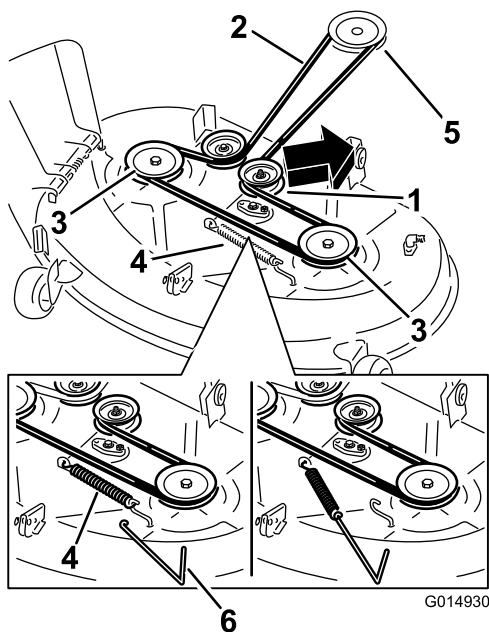
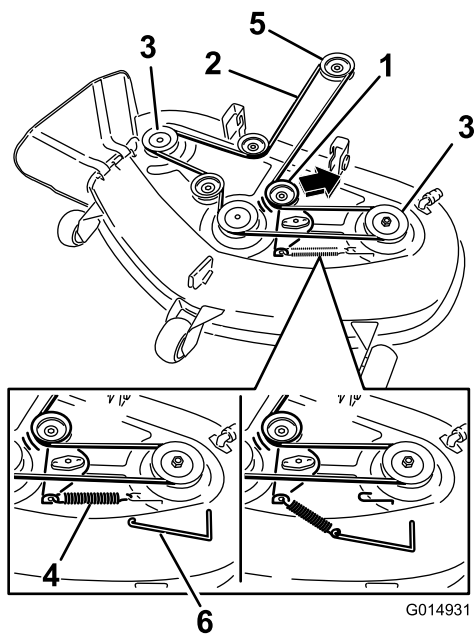

Figure 61
Figure 62
4. Using a spring removal tool, (Toro part no. 92-5771), remove the idler spring from the deck hook to remove tension on the idler pulley and roll the belt off of the pulleys (Figure 61 and Figure 62).
- Route the new belt around the engine pulley and mower pulleys (Figure 62).
- Using a spring removal tool, (Toro part no. 92-5771), install the idler spring over the deck hook and placing tension on the idler pulley and mower belt ((Figure 61 and Figure 62)).